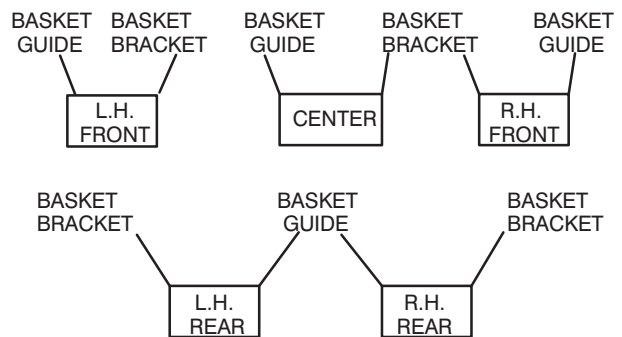
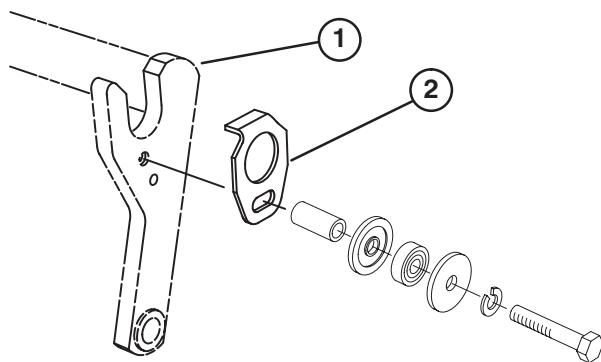
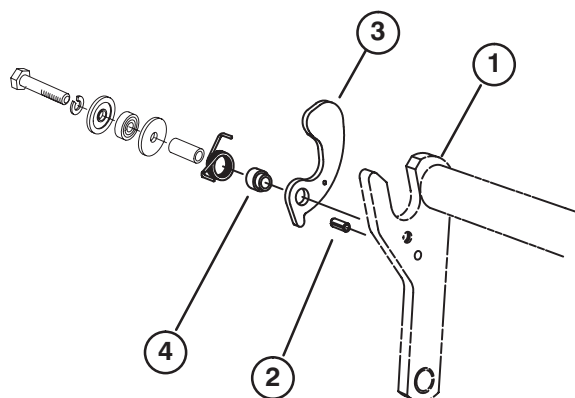
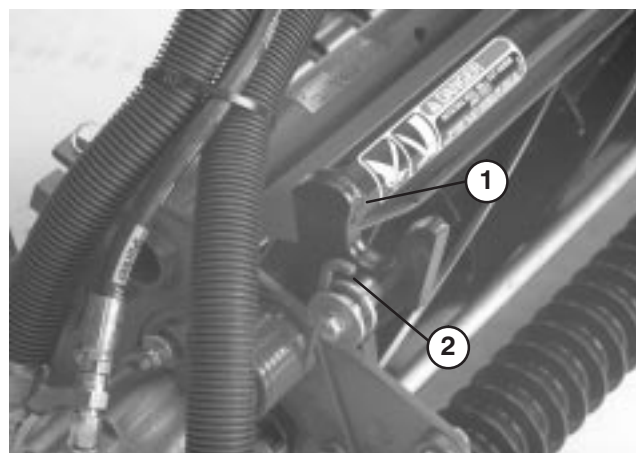

Figure 5
Figure 6
Figure 7
Figure 8
2. If baskets will be installed, use chart below (Fig. 5) to determine locations at which basket guides or basket brackets must be mounted to cutting unit carrier frames. If baskets are not to be installed, proceed to step 7.
3. Remove hardware securing Turf compensation kit to each end of carrier frame (Fig. 6 and 7) and reuse when installing basket guides and basket brackets (Cutting unit models 03506 and 03509 only).
4. Mount a basket guide (Fig. 6) to the appropriate side of each cutting unit carrier frame (see Figure 7) with a capscrew (5/16 x 1-3/4 in.), flat washer, and lock washer or fasteners previously removed, as shown in Figure 6.
5. Install a roll pin (Fig. 7) into hole in appropriate side of each cutting unit carrier frame (Fig. 5).
6. On the same side of carrier frame as roll pin is installed, mount a basket bracket with a cap screw (5/16 x 1-3/4 in.), lock washer, flat washer, torsion spring, basket collar, or fasteners previously removed, as shown in Figure 7. Torsion springs are different for left-hand and right-hand sides of carrier frames. There are 2 left-hand and 3 right-hand springs. Longer leg of spring is to be positioned forward as shown in Figure 8.